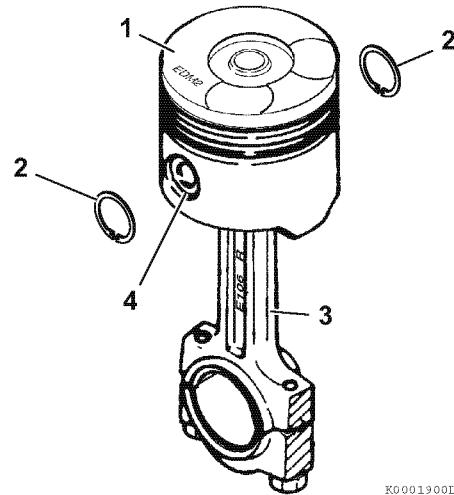

Figure 6-91
3. Lubricate the wrist pin (4, **Figure 6-91**). Carefully support the piston (1, **Figure 6-91**) to prevent damage while driving the wrist pin into place. Use a suitable tool slightly smaller than the inside diameter of the wrist pin bore to drive the wrist pin. Drive the wrist pin through the piston and connecting rod (3, **Figure 6-91**) using a soft-faced hammer until it is centered between the circlip grooves in the wrist pin bore of the piston.
4. Install a circlip (2, **Figure 6-91**) into each of the circlip grooves in the wrist pin bore. Be sure that the circlips are fully expanded in the grooves.